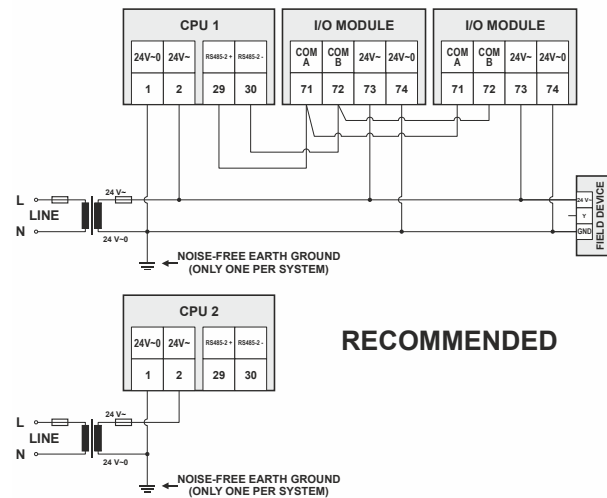

Fig. 60. Connecting and earthing multiple CPUs (RECOMMENDED USE OF SEPARATE TRANSFORMERS)
- ▶ Connect earth ground to the respective terminal of the CPU, see Fig. 60.